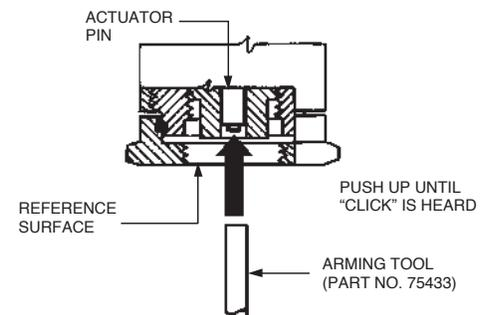

FIGURE 8-13
2. To arm the actuator, use arming tool, Part No. 75433, to force the pin inside the reference surface until a distinct “click” is heard. See Figure 8-13. To verify that the actuator is properly armed, repeat Step 1.